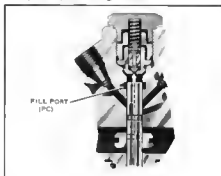

FIGURE 3-39 PORT CLOSING
9. Stop flywheel rotation at exact point fuel stops flowing from No. 1 line into container (one drop in 2 to 5 seconds). This point is the port closing time of the injection pump plunger regardless of flywheel position, Figure 3-39